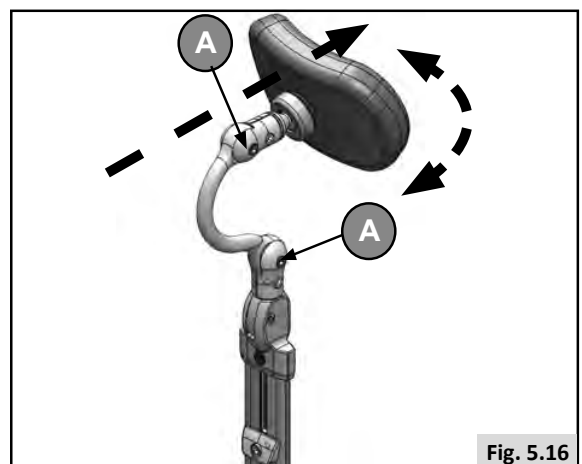

Fig. 5.16
- The headrest forward and back position, height and angle can all be adjusted by loosening the hinge bolts (A) with a 5mm Allen key. Move the headrest to the desired position and tighten the bolts securely (Fig. 5.16).